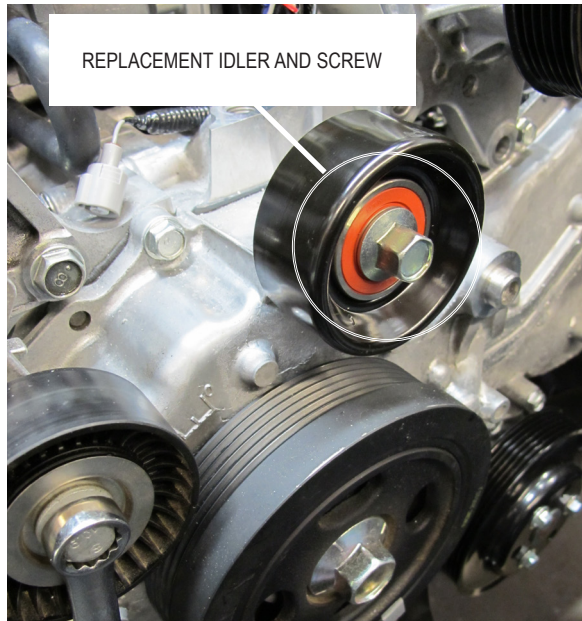

Fig. 3F
- F. Replace the smooth idler located just above the crank damper pulley with the supplied 2.75" diameter steel pulley. The OEM smooth idler pulley originally in this location will not be reused. Secure the pulley with the supplied M10 x 25mm long flange head screw (for clearance purposes, do not re-use the OEM washer & screw). Torque to 30-36 ft-lbs. See Fig. 3F.